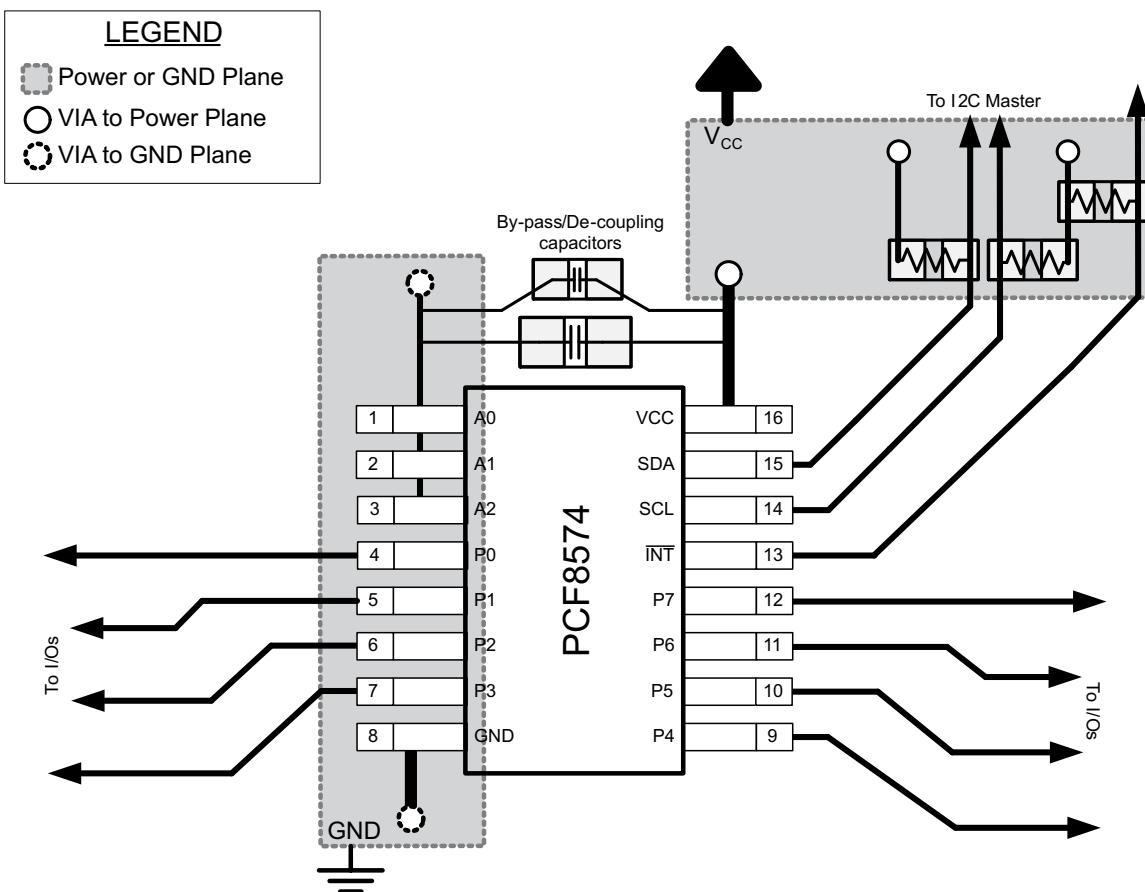

Figure 8-10. Layout Example for PCF8574
In all PCB layouts, it is a best practice to avoid right angles in signal traces, to fan out signal traces away from each other upon leaving the vicinity of an integrated circuit (IC), and to use thicker trace widths to carry higher amounts of current that commonly pass through power and ground traces. By-pass and de-coupling capacitors are commonly used to control the voltage on the V_{CC} pin, using a larger capacitor to provide additional power in the event of a short power supply glitch and a smaller capacitor to filter out high-frequency ripple. These capacitors should be placed as close to the PCF8574 device as possible. These best practices are shown in Figure 8-10.
For the layout example provided in Figure 8-10, it would be possible to fabricate a PCB with only 2 layers by using the top layer for signal routing and the bottom layer as a split plane for power (V_{CC}) and ground (GND). However, a 4 layer board is preferable for boards with higher density signal routing. On a 4 layer PCB, it is common to route signals on the top and bottom layer, dedicate one internal layer to a ground plane, and dedicate the other internal layer to a power plane. In a board layout using planes or split planes for power and ground, vias are placed directly next to the surface mount component pad which needs to attach to V_{CC} or GND and the via is connected electrically to the internal layer or the other side of the board. Vias are also used when a signal trace needs to be routed to the opposite side of the board, but this technique is not demonstrated in Figure 8-10.